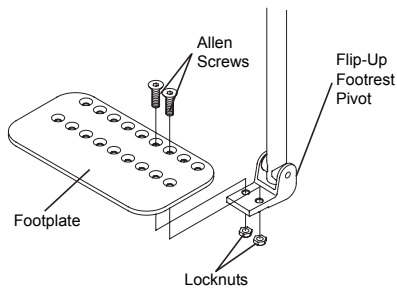

Figure 16
1. Remove the flat head Allen Screws and locknuts that attach the footplate to the flip-up footrest pivot. See Figure 16.